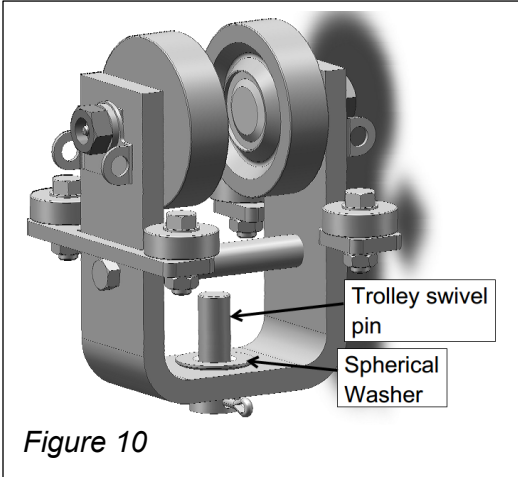

Figure 10
- 5. Roll trolleys onto each end of end truck, verify spherical washer is in place (see Fig. 10)